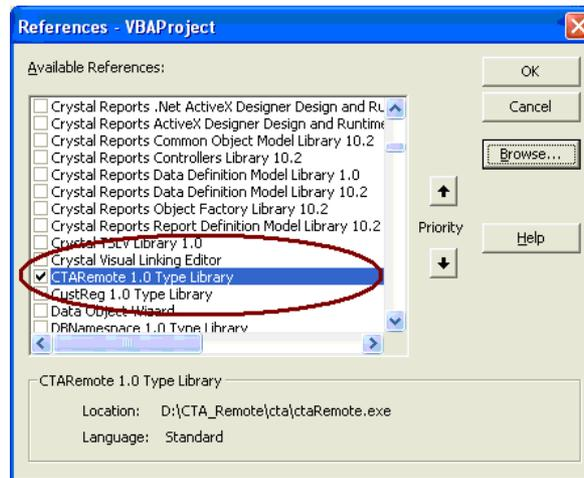

Figure 6 "References - VBAProject" dialog, entry "CTARemote Type Library" checked
2. The dialog "References - VBAProject" appears. In the "Available References" list, scroll to the entry "CTARemote x.x Type Library" and click on the checkbox in front of this entry to check it (refer to Figure 6).